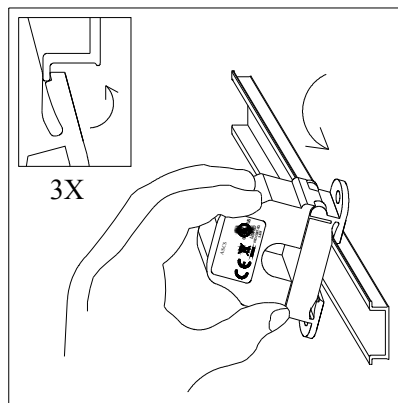

Figure 1: Sensor Placed on Rail
The A/SCS Series Current Switches should be used on **Insulated Conductors Only!** The current switch may be mounted in any position using the (2) #8 x 3/4" Tek screws and the mounting holes in the base or snapped directly on to the 35mm DIN rail (See **Figures 1 & 2 below**). Leave a minimum distance of 1" (3 cm) between the current switch and any other magnetic devices such as contactors and transformers.